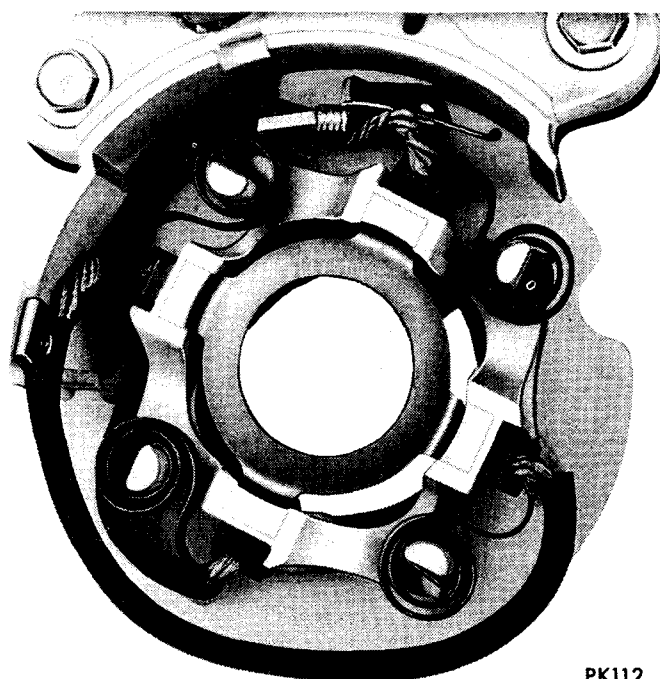

Fig. 30—Positioning Armature Thrust Washer to Brushes
- (16) Position brushes with armature thrust washer as shown in Figure 30. This will hold brushes out and facilitate proper installation of armature.